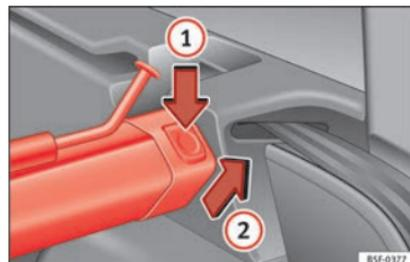

Fig. 169 In the luggage compartment: removing the net partition.
- Press the left or right release catch » Fig. 169 in the direction of the arrow ①.
- Remove the casing from the support in the direction of the arrow » Fig. 169 ②.
- Press the casing into the left and right supports in the opposite direction to the arrow » Fig. 169 ② until it engages.